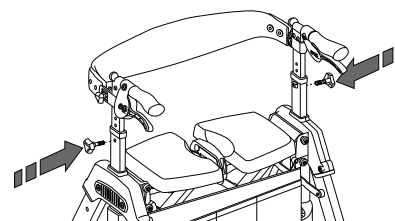

FIGURE 3
3. Handle height adjusts to 31"-38". Unscrew knobs, adjust handles to desired height, align holes and retighten knobs as shown in FIGURE 3.